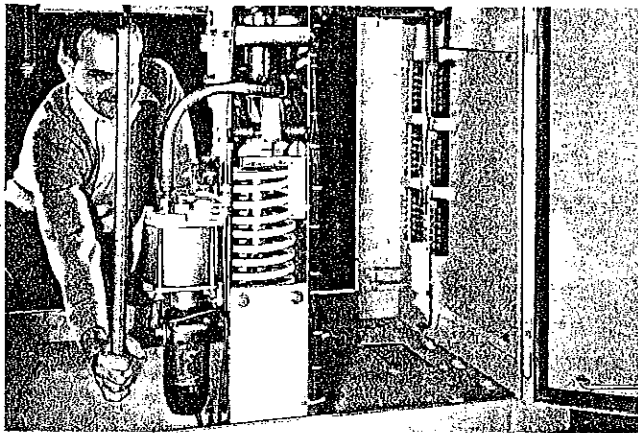

Figure 10
- B. Use maintenance positioning wrench as illustrated (Figure 10).
- A. Using the operating mechanism maintenance positioning wrench (Figure 10), close the breaker.